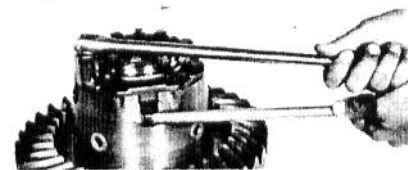

Fig. 67 - Removing Differential Case Capscrews
3. Remove the differential case capscrews. Refer to Fig. 67.